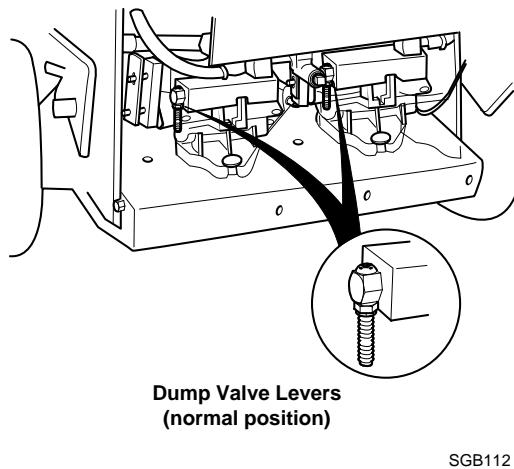

Figure 1. Dump Valves
10. To "freewheel" or move the machine around without the engine running, turn the dump valve levers located at the back of the pumps to the "freewheel" positions (see Figure 1). To operate the machine, the dump valve levers must be returned to the closed positions.